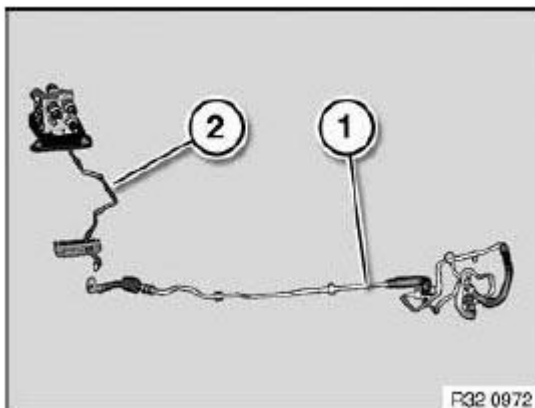

Fig. 84: Identifying Rear And Front Return Line
Remove front return line (1) (from steering gear or junction I to power steering cooler). See **Fig. 84**.
Remove rear return line (2) (from junction I to valve block). See **Fig. 84**.